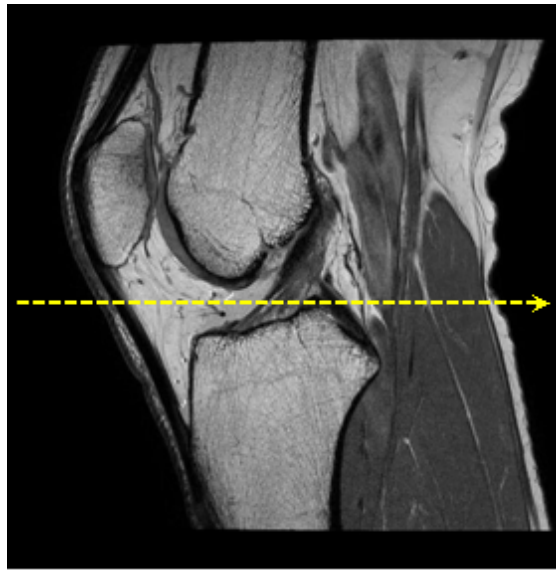

Figure 5
4. Find the Knee joint's real Axial plane or axis, as shown in Figure 5 by the yellow dash line.